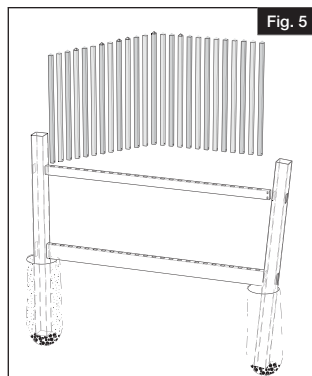

Fig. 5
- Starting from the left side, insert pickets/boards down through the top rail. Finish by locking pickets/boards into bottom rail (Fig. 5).